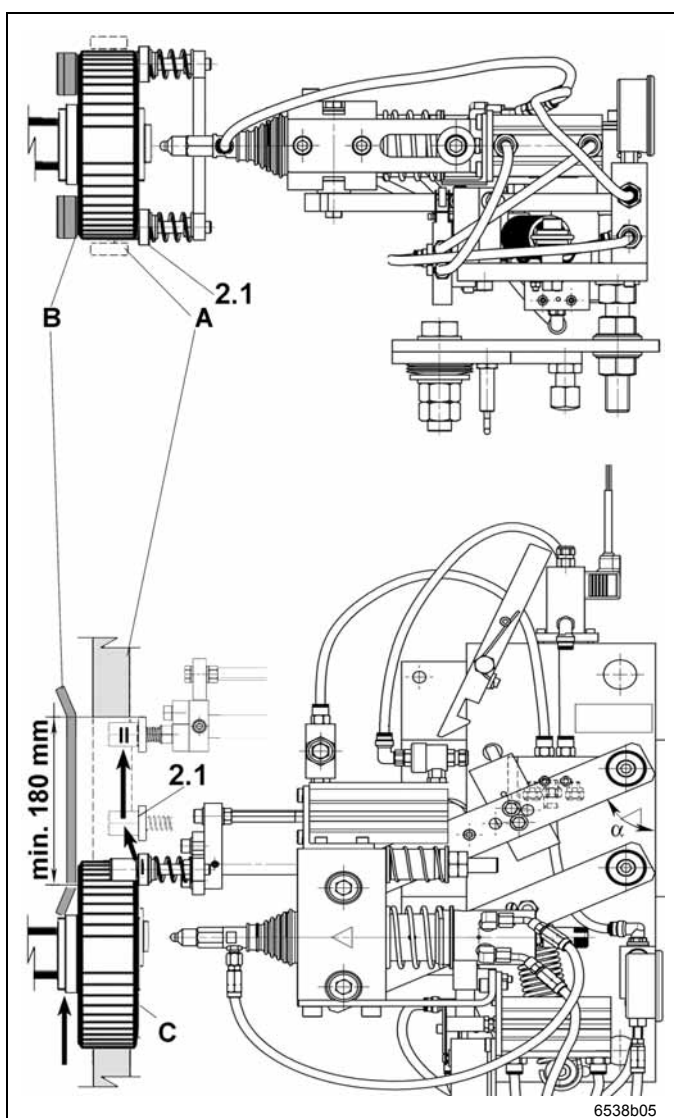

Fig. 4 Guidance of the chain rollers
- In case of unintentional pick-up of the pick-up rollers (see page 10, fig. 4, pos. 2.1) by the transport chain